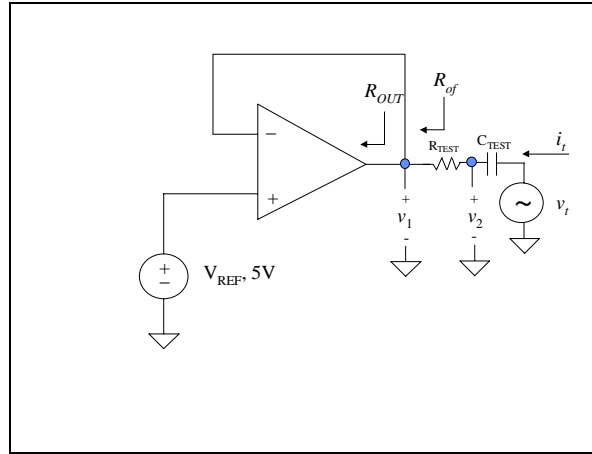

Figure 3.4a: R_{OUT} Measurement Circuit
1. Setup the circuit shown in Figure 3.4a.
1. Setup the non-inverting unity-gain op amp circuit shown in Figure 3.4a.